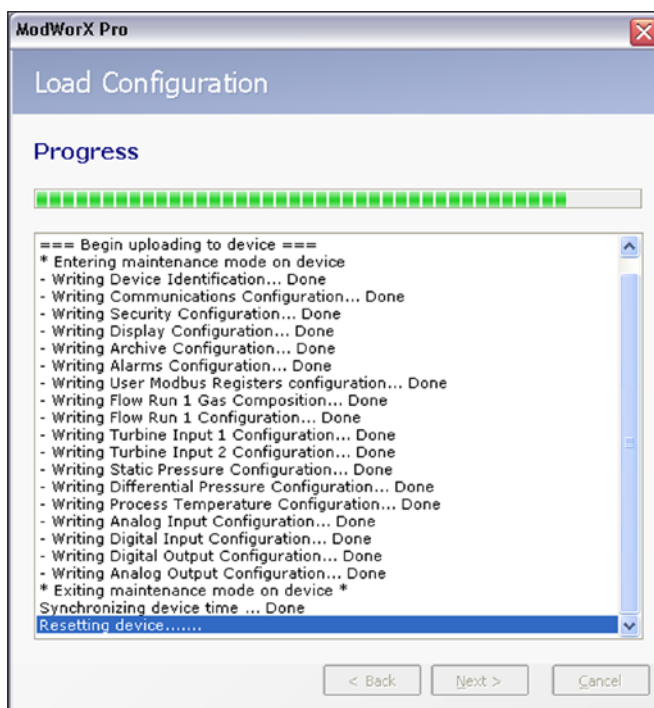

Figure A.6
8. Click *Next* to initiate the upload. A progress screen will be displayed throughout the upload (Figure A.6), followed by a confirmation screen when the upload has been successfully completed.